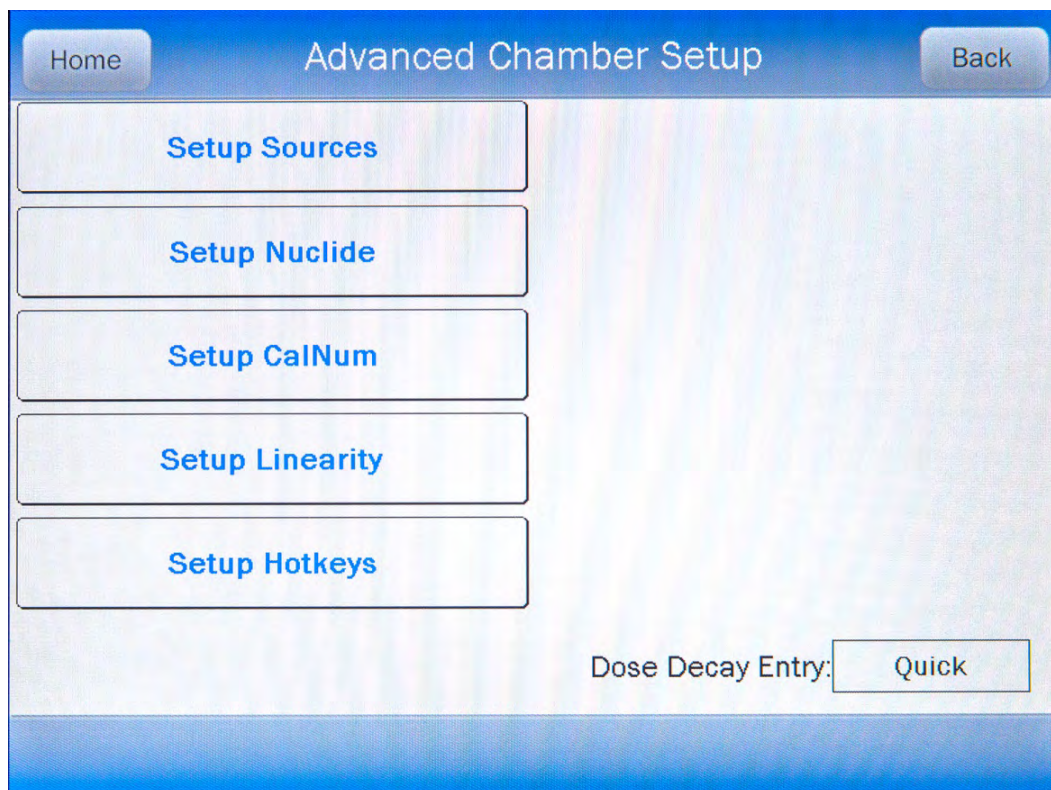
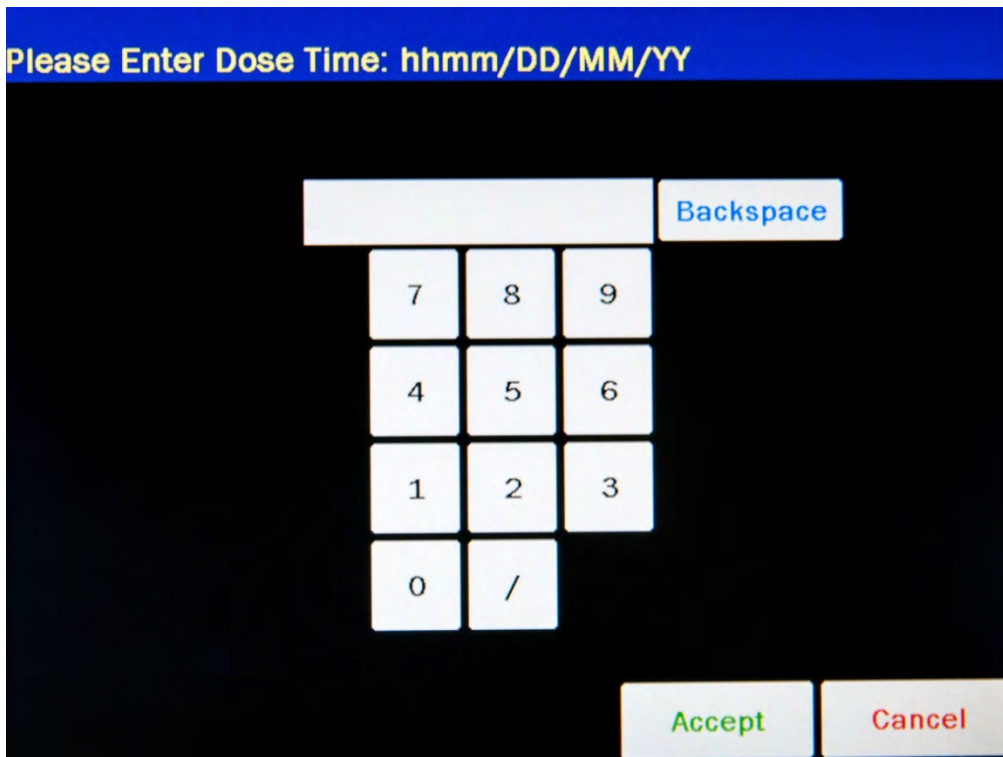

Figure 10-3 Advanced Chamber Setup Screen
Figure 10-5 Date/Time Screen for Quick Entry Mode
The mode is selected from Figure 10-3 Advanced Chamber Setup Screen.
Touch the **QUICK** button to select the Quick mode. Touch the **FULL** button to select the Full mode. Figure 10-3 Advanced Chamber Setup Screen will re-appear with the selected mode displayed in the ***Dose Decay Entry:*** field box..
3. Touch the **DOSE DECAY** button. If the Dose Decay mode is set to “Quick”, Figure 10-5 Date/Time Screen for Quick Entry Mode will appear. If Full mode was selected, Figure 10-3 Advanced Chamber Setup Screen will appear.